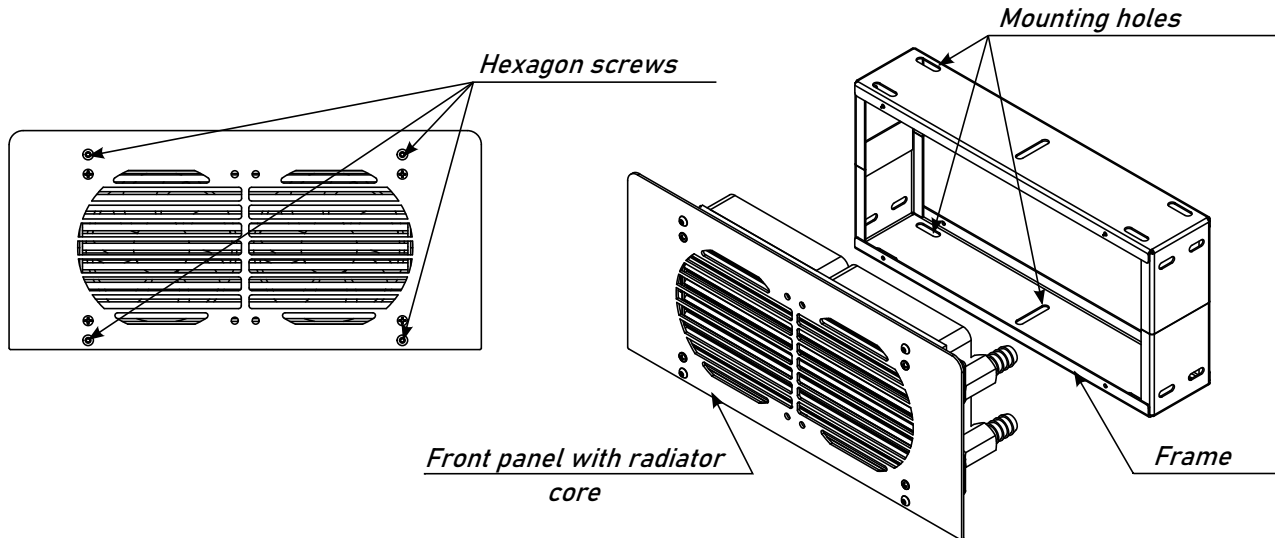

Fig. 2 - CHX structure
**Installation process (see Fig.2):**